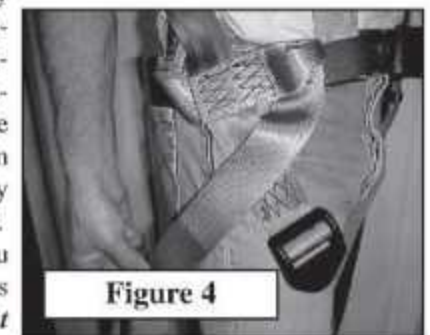

Figure 4
**Step 3.** Bring leg strap **BEHIND** the leg then between legs to the front. Leg strap can cross over or under the leg buckle strap as shown in **Figure 4**.